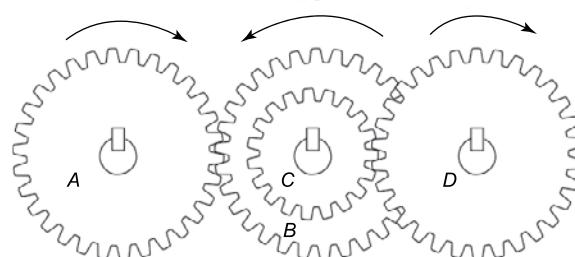

Figure 19.6
A compound gear train is shown in Figure 19.6, in which gear wheels B and C are fixed to the same shaft and hence $N_B = N_C$
Problem 8. A compound gear train similar to that shown in Figure 19.6 consists of a driver gear *A*, having 40 teeth, engaging with gear *B*, having 160 teeth. Attached to the same shaft as *B*, gear *C* has 48 teeth and meshes with gear *D* on the output shaft, having 96 teeth. Determine (a) the movement ratio of this gear system and (b) the efficiency when the force ratio is 6.
- A compound gear train is as shown in Figure 19.6. The movement ratio is 6 and the numbers of teeth on gears *A*, *C* and *D* are 25, 100 and 60, respectively. Determine the number of teeth on gear *B* and the force ratio when the efficiency is 60%. [250, 3.6]